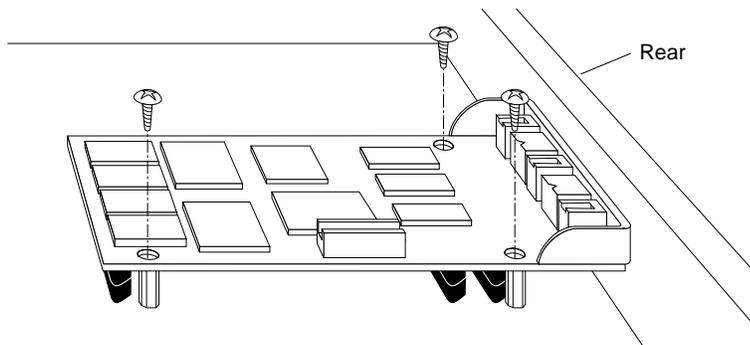

Figure 1-8 Removing the Screws From the GIO option Board
- Using a Phillips screwdriver, remove the three screws that connect the GIO option board to the graphics board, as shown in Figure 1-8.